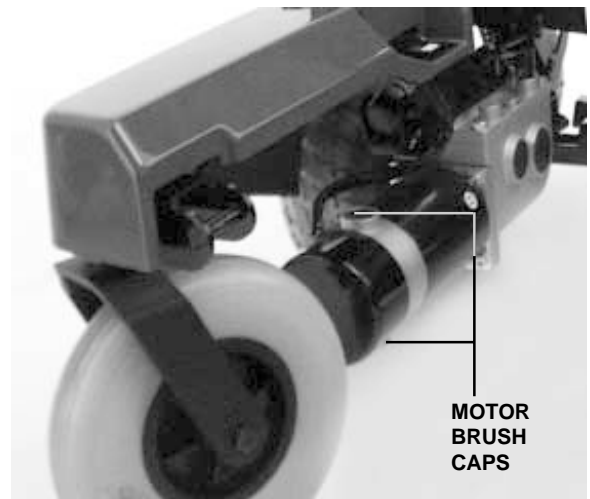

Figure 28. Motor Brush Caps
3. Unscrew the motor brush caps. See figure 28.